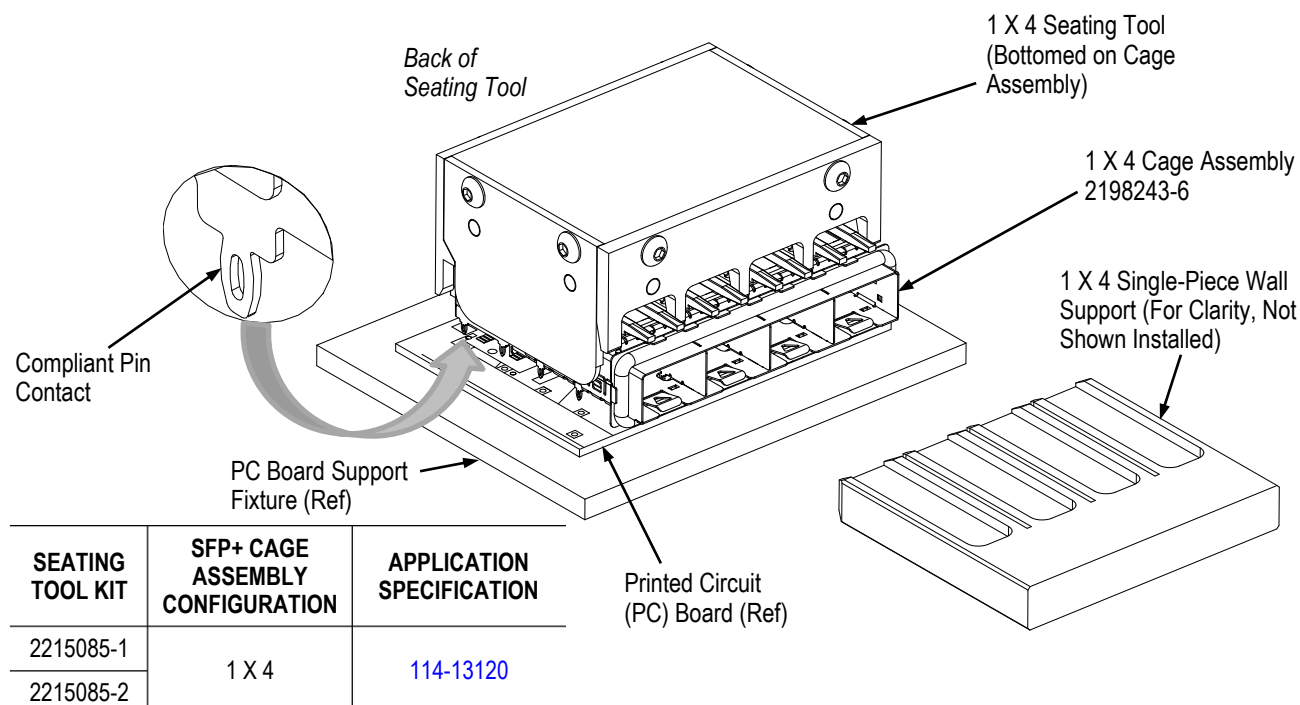

Figure 1
SFP+ cage assembly seating tool listed in Figure 1 is used to seat the cage assembly described in Figure 1 onto the pc board. The cage assembly contains compliant pin contacts to allow solderless pc board installation.
2. DESCRIPTION (Figure 1)
For detailed application requirements of the cage assembly, refer to the application specification given in Figure 1.